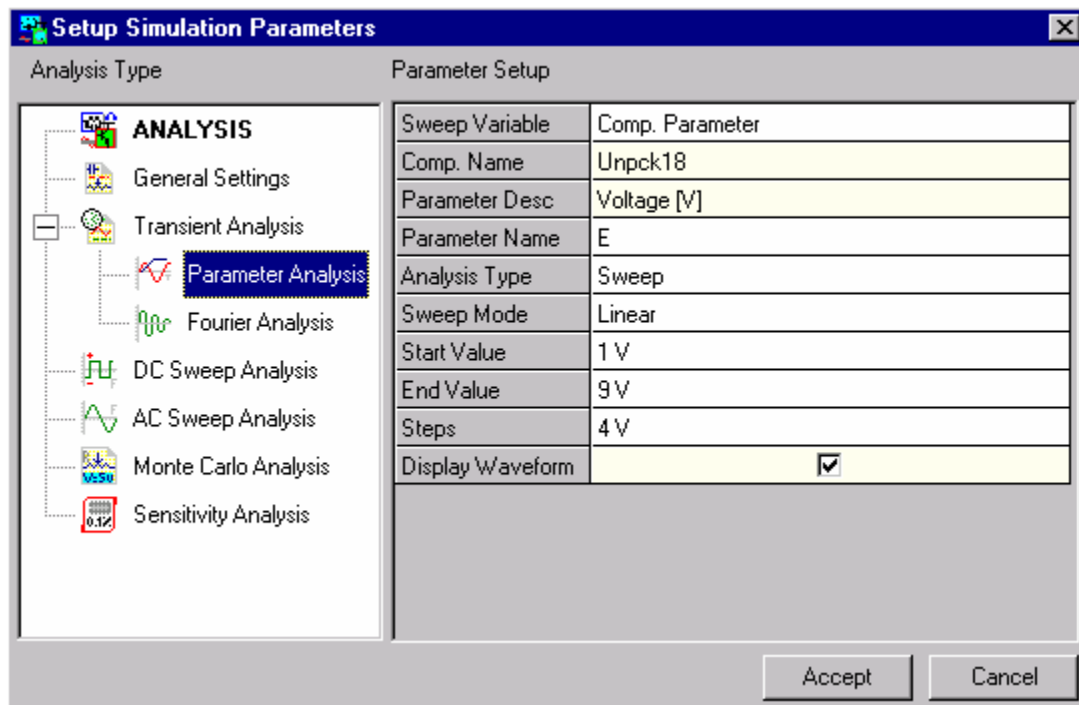

Fig. 6.12
- window by default. Set the parameters by selecting **GENERAL SETTINGS** from the tree view on the left side of the window. Now, select the Parameter Analysis option (Refer Fig. 6-12).